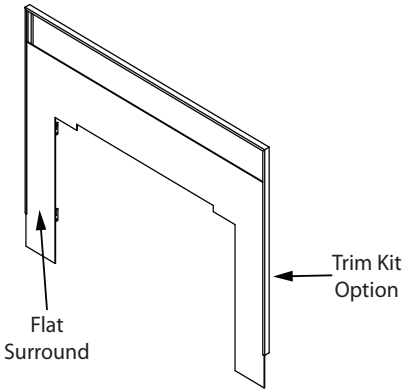

Figure 20.3
3. Slide trim over flat surround as shown in Figure 20.3.